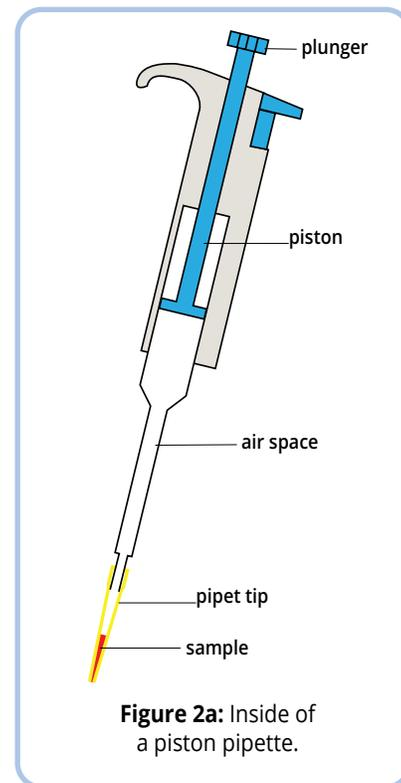
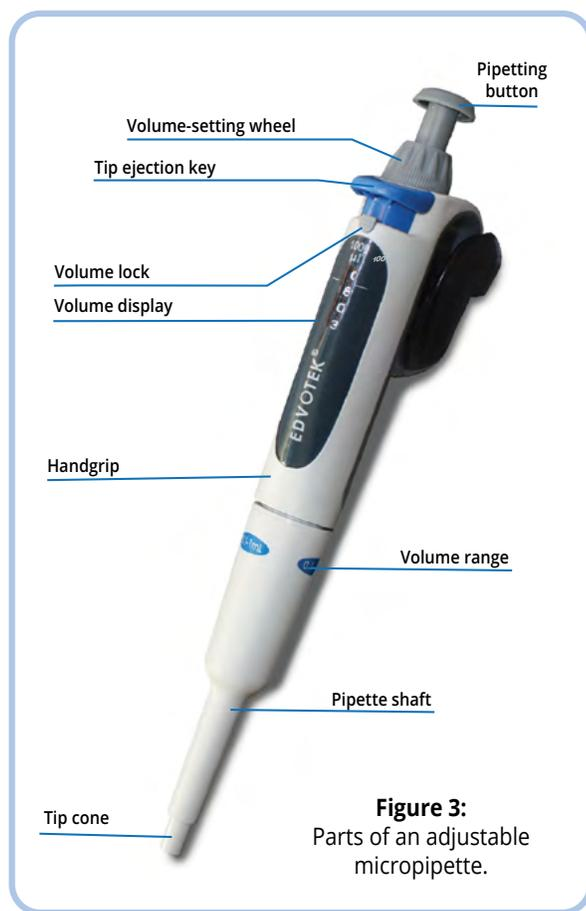

Figure 2a: Inside of a piston pipette.
Figure 3: Parts of an adjustable micropipette.
For smaller volume reactions - such as those required for most molecular and microbial biology experiments - scientists use **micropipettes**. These were originally miniature versions of a graduated pipette attached to a bulb or even a suction piece (see box "**Do not mouth pipettes**"). However, today, most labs are equipped with **piston displacement micropipettes**. Inside these pipettes are a solid disk and tightly fitted tube (Figure 2a). When the user depresses a plunger the disk moves down which pushes air out of the tube and the connected tip. Next, the user immerses the tip into a solution and releases the plunger which creates a vacuum. This vacuum causes the liquid in the sample to flow up into the tip. The volume of this liquid (sometimes called the load volume) is equivalent to the volume of air displaced by the downward moving piston. Therefore, load volumes can be set to a specific value by calibrating the piston's height. Early displacement pipettes had pistons that were **fixed** at a single height and so could measure one specific volume. However, later displacement pipettes were redesigned so that the user could repeatedly **adjust** the piston height in order to measure out a range of volumes (Figure 3).
1. Examine the pipette(s) on your bench. Use Figure 3 on page 5 to **IDENTIFY** the following: pipetting button, volume setting wheel, tip ejection key, and tip cone.